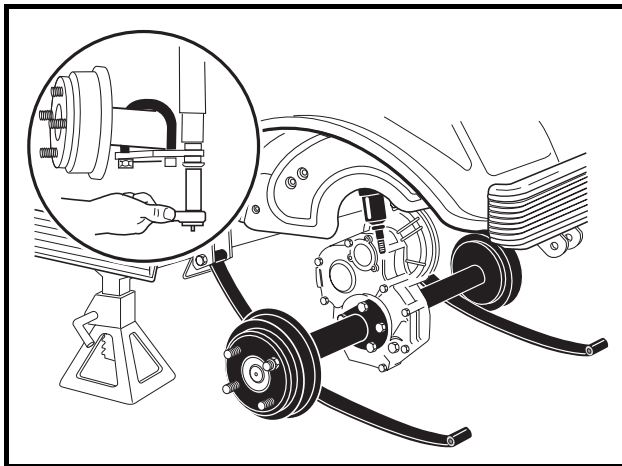

Figure 15-3 Transaxle Removal
6. Remove the nut, cup washer, and bushing from the bottom side of the shock absorber. Compress the shock absorber (pushing upwards) to move it out of the way (**Figure 15-3, Page 15-3**).
8. To gain easier access to the motor, lower the transaxle as low as it will go. If more room is needed, remove the jack from beneath the transaxle and allow the springs to rest on the floor (**Figure 15-3, Page 15-3**).